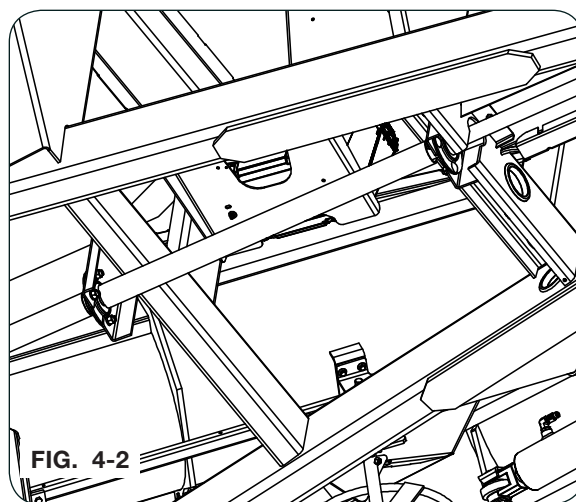

FIG. 4-2
3. Remove the 3/8" hex bolts (9390-055), flange nuts (9394-006), and lock washers (9404-021) holding the flangette bearings. Keep hardware. (Fig. 4-2).
1. For the lower auger, use the top edge of the flighting as a 12 o'clock reference. Position the drive dog so the driving edge is at the 5 o'clock position. (FIG. 4-2)
NOTE: Looking down at the lower flighting (as in Fig. 4-2) the auger rotation will be clockwise. When looking up at the upper flighting (as in Fig. 4-3) the auger rotation will be counter-clockwise.